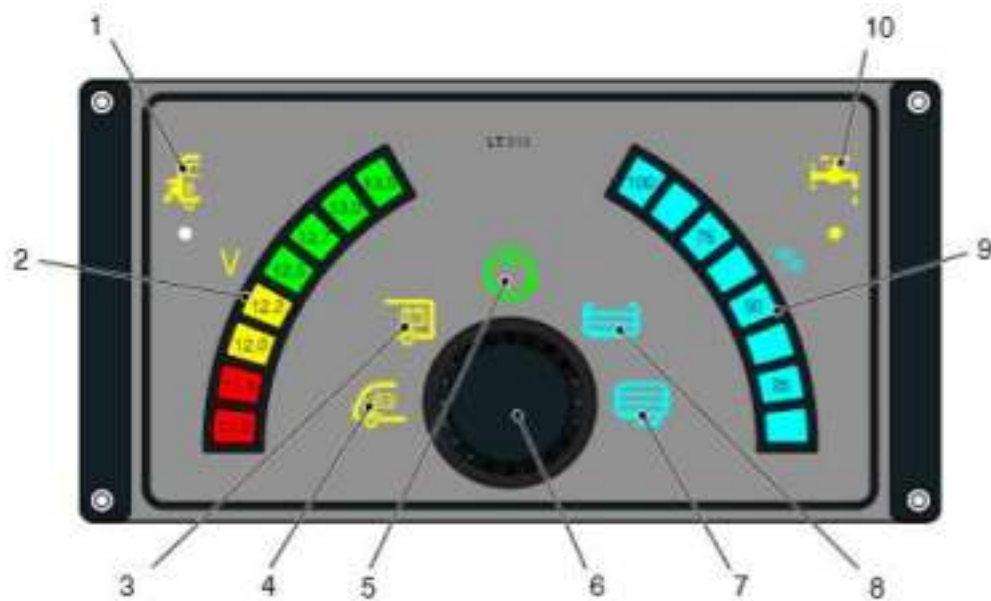

Fig. 1 – LT315 control and switch board
The backup battery is located under the front seat. Rotate the button (Fig. 1, item 6) to show the charging state of the starter battery (Fig. 1, item 4) or backup battery (Fig.1 item 3) on the control panel.
Connect to the 230 Volt mains, using the provided external cable. Indicator light “230 Volt mains connected” (Fig. 1, item 1) lights up when cable is connected and charging the battery.
Switch off all electrical appliances while charging to achieve a rapid and optimum charge. Charging state of the backup battery should be checked on the LED display by rotating the button (Fig. 1, item 6) and checking the battery voltage (Fig. 1, item 2) on the control panel.
Power is also drained from the backup battery, even when the appliances are switched off. To avoid draining/damage to the backup battery, the charge state should always be checked. When not in use, the complete 12 Volt system can be switched OFF with the main switch (Fig. 1, item 6) on the control panel. The 12 Volt unit is not in operation when the green light (Fig. 1, item 5) is off. The electrical supply to the refrigerator, when in 12 Volt operation and to the heating is however maintained.